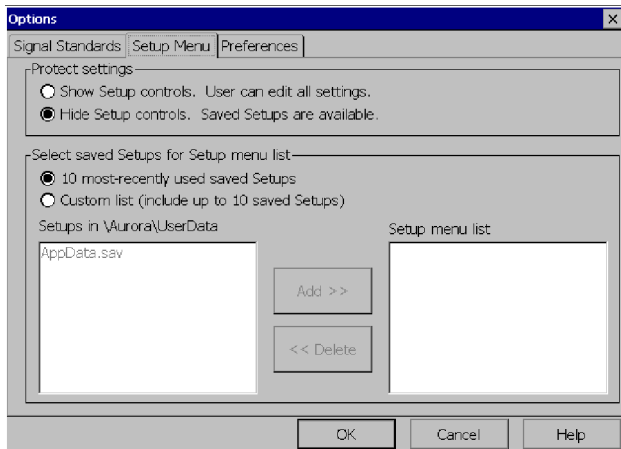

Figure 3-70: Protecting Setup Controls
2. Select the **Setup Menu** tab. See Figure 3-70.